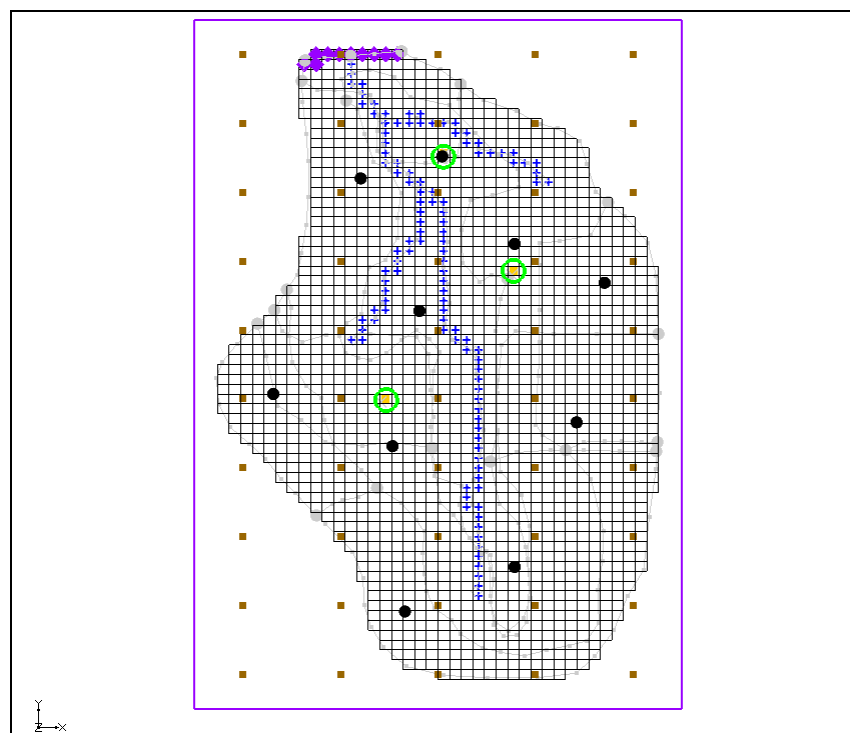

Figure 6 Location of pumping wells
Notice that there are three pumping wells in the model (Figure 6, the center of each green circle). For purposes of illustration, assume that a pump test was performed at each of these wells and the HK was estimated.
6. Using the **Create Scatter Points**  tool, create a scatter point at each of the pumping wells as shown in Figure 6.